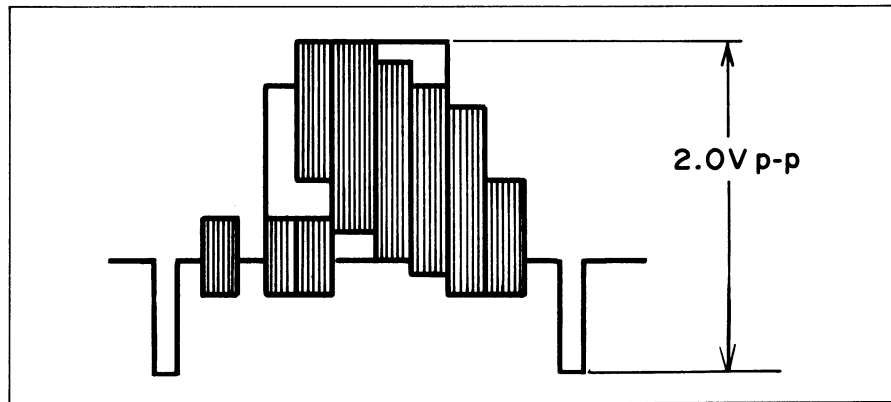

Fig. 5-51. Color mode E-E waveform
2. Set the VTR to the REC mode, and adjust R75 (Color E-E Level) so that the output is 2.0 volts p-p. See Fig. 5-51